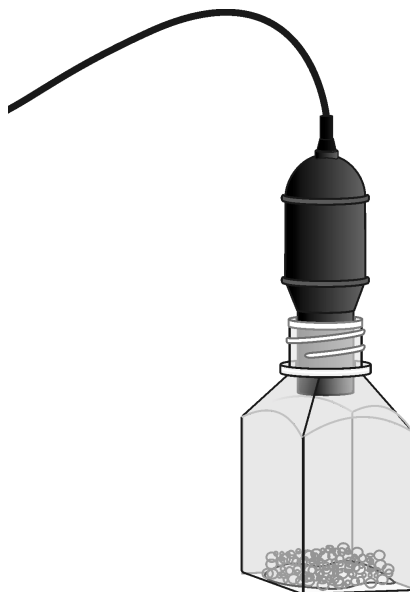

Figure 1
- e. Place the O2 Gas Sensor into the bottle as shown in Figure 1. Gently push the sensor down into the bottle until it stops. The sensor is designed to seal the bottle with minimal force.